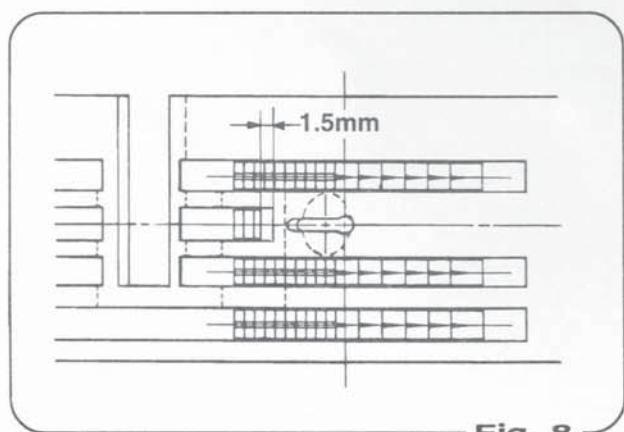

Fig. 8
- a) Ensure that the feed dog does not touch the throat plate as it passes through. A clearance of 1.5mm should be seen between the middle teeth of the front feed dog and the throat plate as indicated (Fig.8).
送料齿最前进时，针板沟和送料齿间隙应有 1.5mm(图 8)，请放松送机构根基(#304201)螺钉，而调整其间隔。